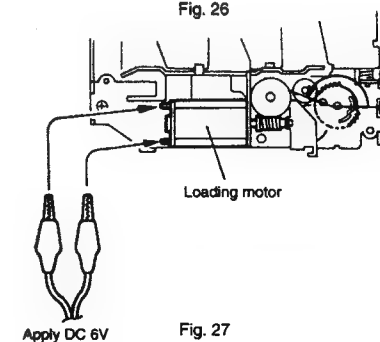

Fig. 27
8. After the installation, apply DC 5 V to the lead wires of the loading motor assembly to locate the load gear assembly as shown in Fig. 27.